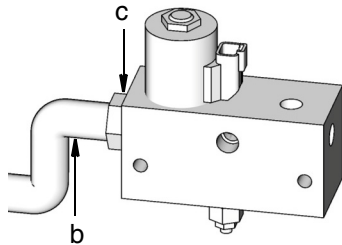

FIG. 2
4. Connect the pressure supply line (b) and inlet fitting (c) to manifold port (marked "I") (FIG. 2). Wrench tight only.